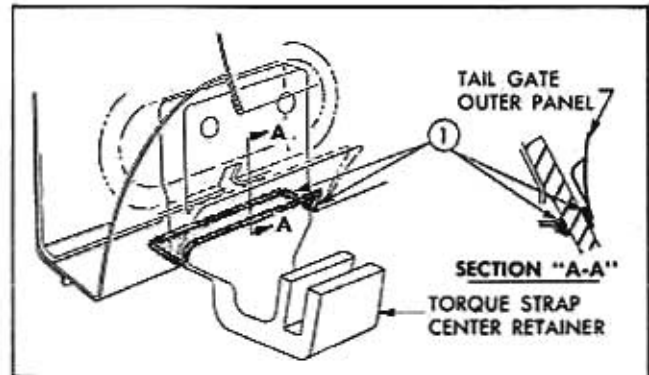

Fig. 4-14 Torque Strap Center Support—Sealing
6. Apply body caulking compound between torque strap center retainer and opening in tail gate panels, as indicated at 1 in Fig. 4-14, to effect a watertight seal at opening.